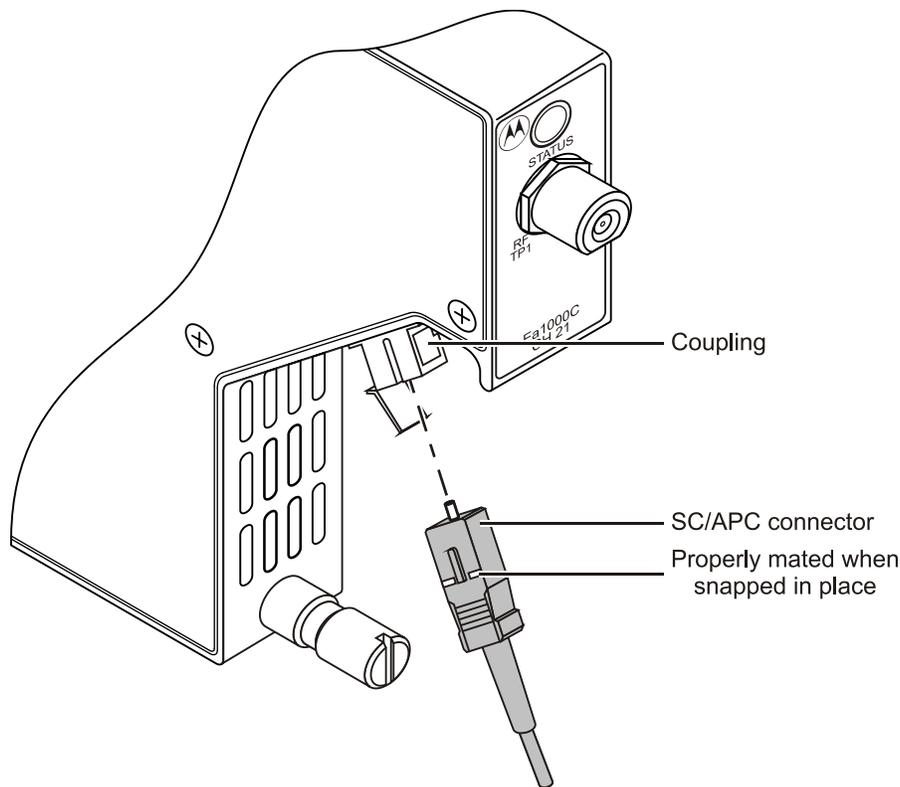

Figure 11: Inserting the SC/APC connector
2. Align the key on the SC/APC connector with the mating key slot of the optical bulkhead fitting. Figure 11 illustrates proper SC/APC alignment with the optical bulkhead fitting: